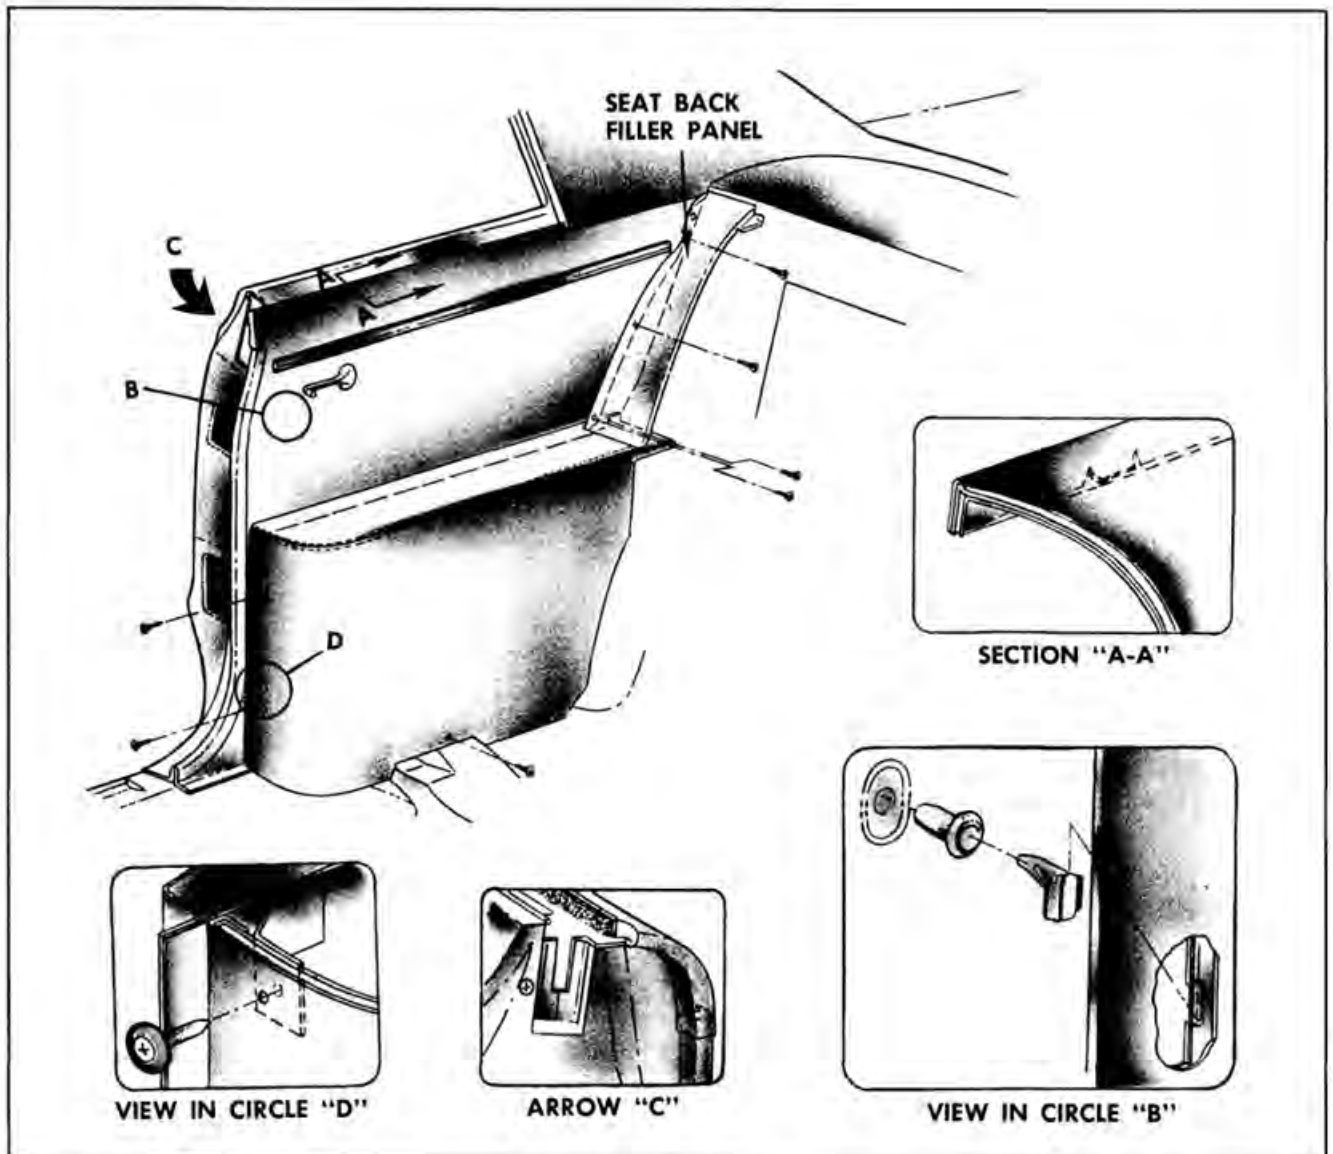

Fig. 16-364 Rear Quarter Trim (37 Styles)
2. Grasp trim assembly at lower forward edge and carefully pull inboard to disengage clips along forward edge of trim assembly from sealing plugs in inner panel similar to "B", Fig. 16-364.